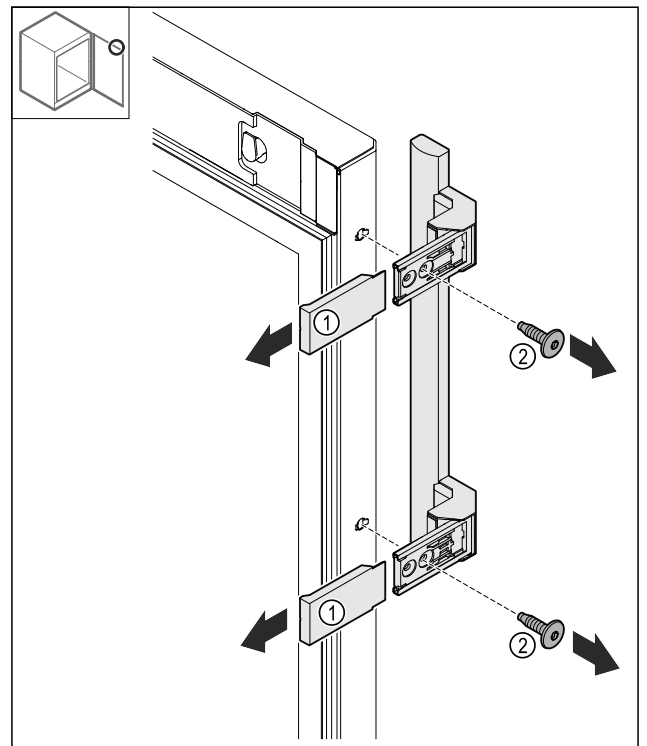

Fig. 24
- ▶ Remove the covers Fig. 24 (1).
- ▶ Loosen the screws Fig. 24 (2).